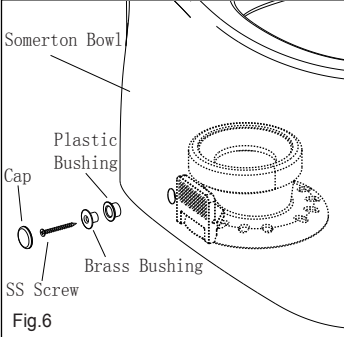

Fig.6
6. Insert the plastic bushing and brass bushing into the Bowl fixing hole as shown in Fig.6. Secure the bushings through the holes in fixing bracket with SS screws as shown in Fig. 7. Spacing between the outside of the Somerton bowl and the fixing bracket can vary. To ensure the best possible installation 2 lengths of SS screws have been supplied. Start with the shorter 30mm (1-3/16") set of SS screws and fasten as shown in Fig. 7. If when fastening there is no resistance, (meaning that the screw has not sufficiently fastened into the fixing bracket), substitute the longer 55mm (2-3/16") screws. Do not start with the longer hardware as you do not want the screws to insert past the fixing bracket into the offset adaptor, as this can affect your seal. Cover it with cap.